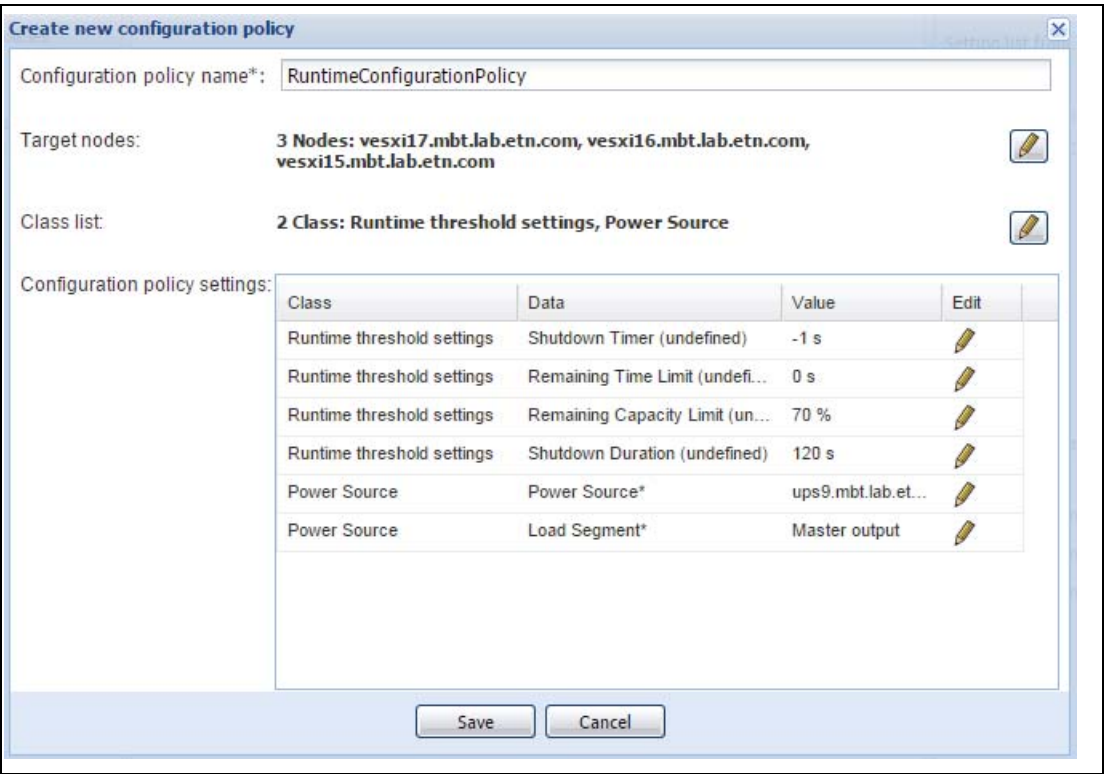

Figure 259. Create New Configuration Policy
3. From the Create new configuration policy dialog, create a new configuration policy with the Class, including Runtime Threshold Settings and Power Sources Identification (see Figure 259).